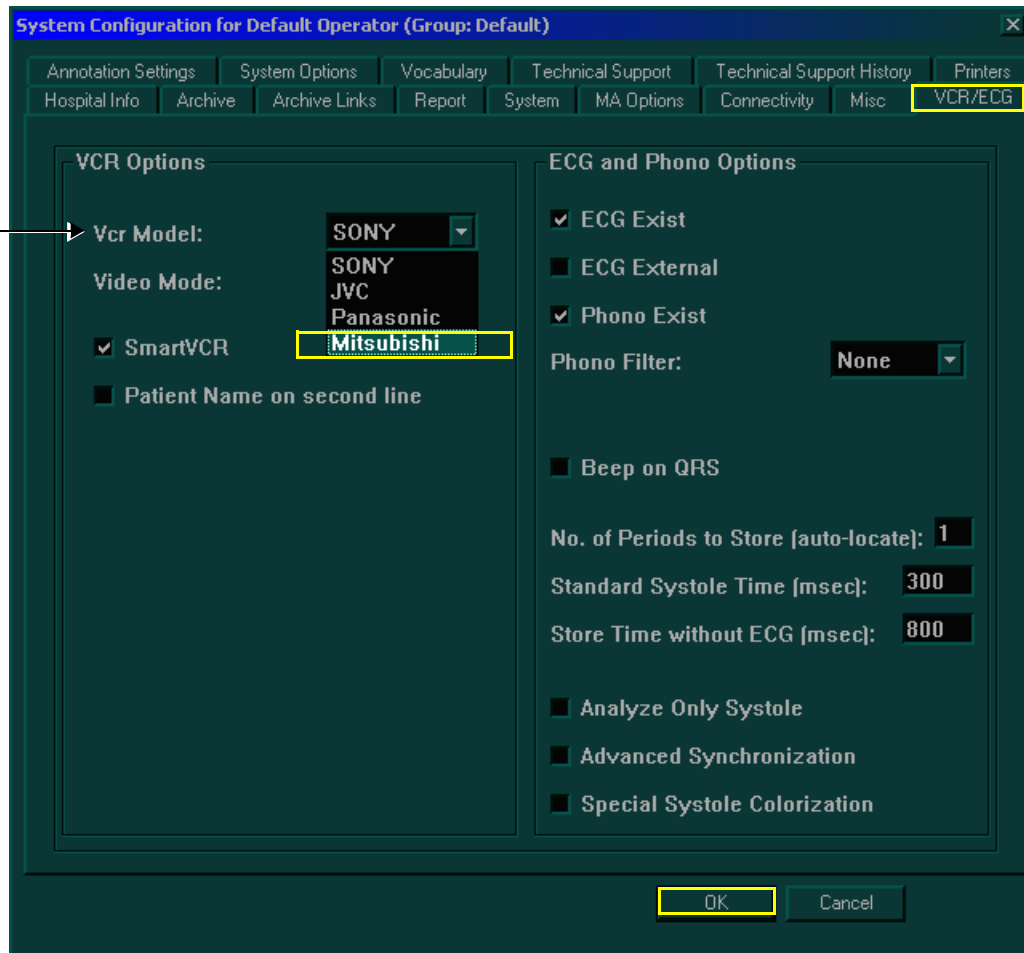

Figure 8-117 Selecting VCR Model - Mitsubishi
7.) Under the VCR Options list, choose Mitsubishi from the **VCR model** drop-down list (Figure 8-117).